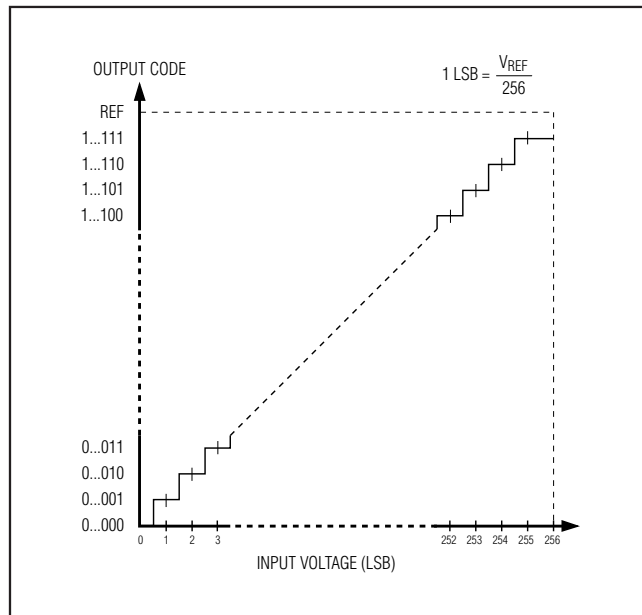

Figure 12. Unipolar Transfer Function
Output data coding for the MAX11600–MAX11605 is binary in unipolar mode and two's complement binary in bipolar mode with 1 LSB = V_{REF}/2^N where N is the number of bits (8). Code transitions occur halfway between successive-integer LSB values. Figures 12 and 13 show the input/output (I/O) transfer functions for unipolar and bipolar operations, respectively.